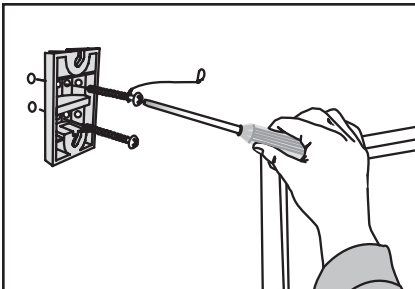

Figure 3. Installing the hanger bracket.
1. Using appropriate screws/mounting hardware (not included), mount the bracket with the supplied safety strap on the wall at the desired location (figure 3). Make sure the bracket is straight.